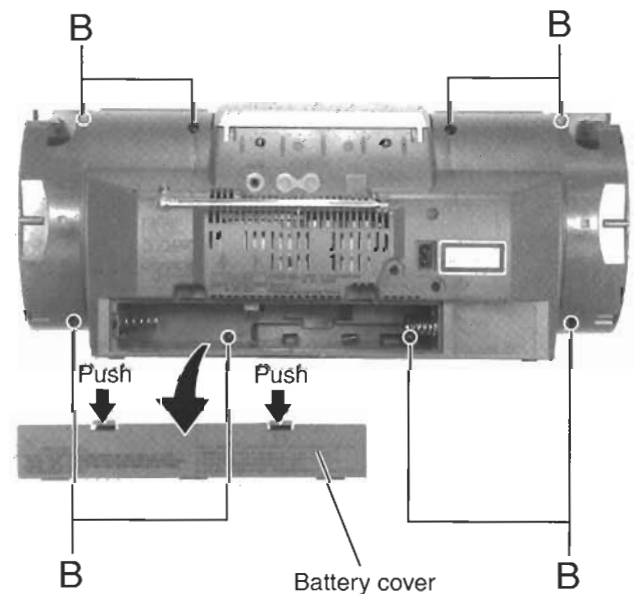

Fig.3
■ Removing the Front Cabinet Assembly and the Rear Cabinet Assembly (See Fig.3)